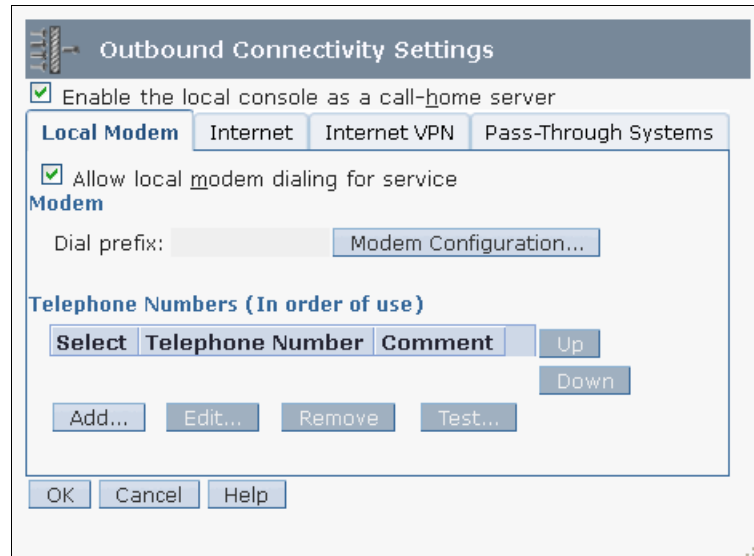

Figure 6-25 Manage Outbound Connectivity option: Local Modem tab
1. On the Local Modem tab, select **Allow local modem dialing for service**, and then select **Modem Configuration** (Figure 6-25).